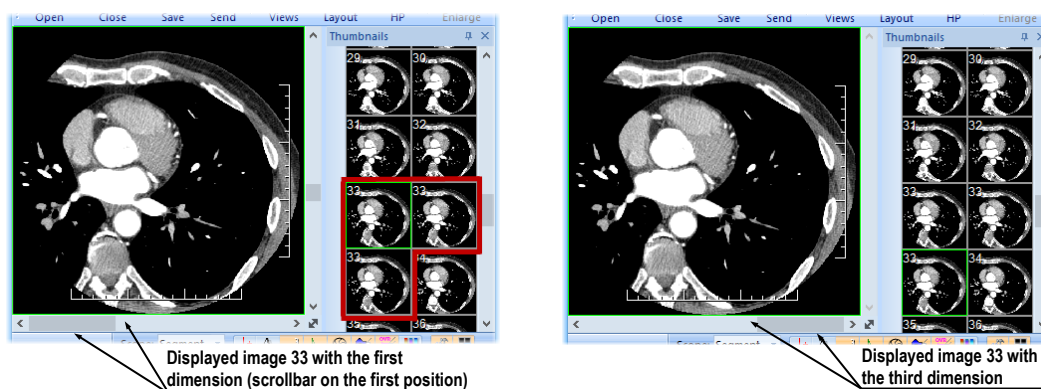

Figure 138 – Displayed image with the first and the third dimension in the current view
- Move to the next/previous image that has the same dimension as the dimension of the image displayed in the current view by scrolling with the mouse wheel or using the vertical scrollbar. The dimension will be achieved and the image will skip to the nearest image in the series (see Figure 138).